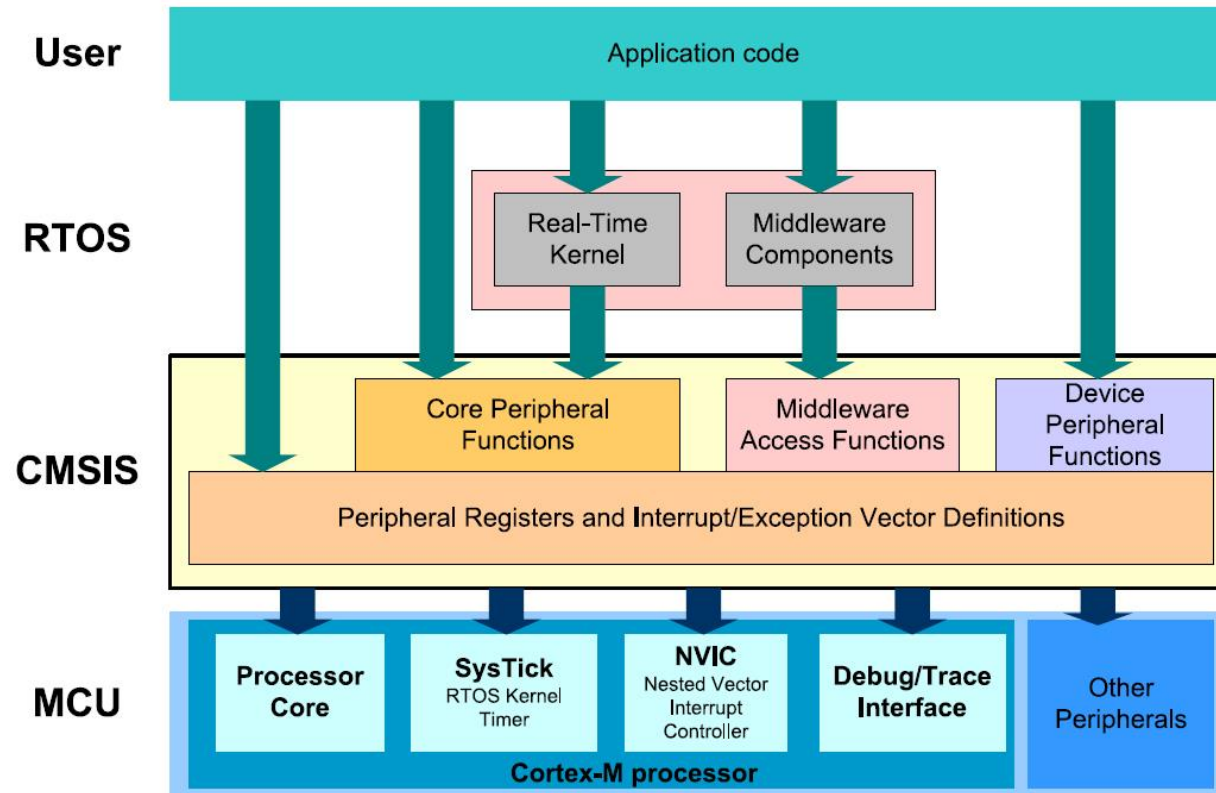

FIGURE 10.7
- The role of these layers is summarized in Figure 10.7.